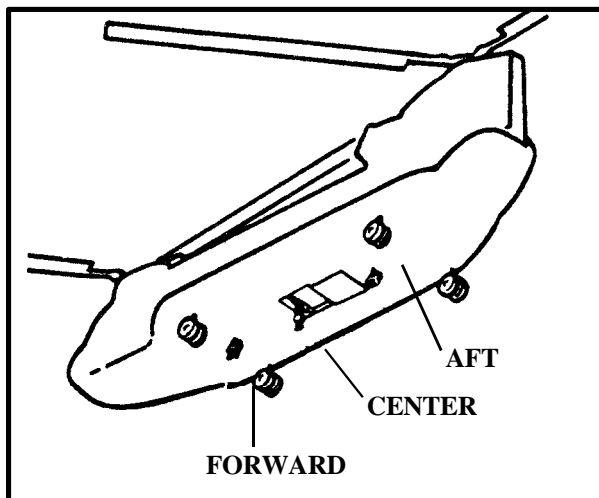

Figure 2-13. H-47 Cargo Hook Locations
(1) The H-47's center cargo hook and two additional cargo hooks (Figure 2-13) increase sling load capacity and stability. The two additional cargo hooks, designated as the forward and aft cargo hooks, are bolted to the bottom of the aircraft about 6 1/2 feet fore and aft of the center (main) cargo hook.